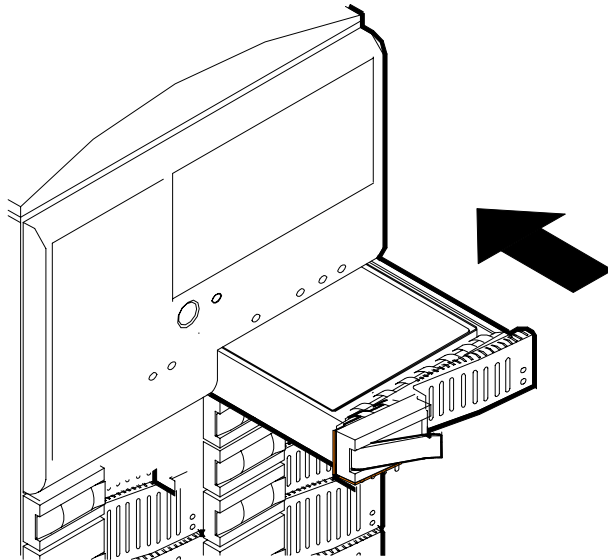

Figure 4-4. Installing a Disk Carrier into the Bay
8. Install the drive carrier with drive into the bay (Figure 4-4) as follows: